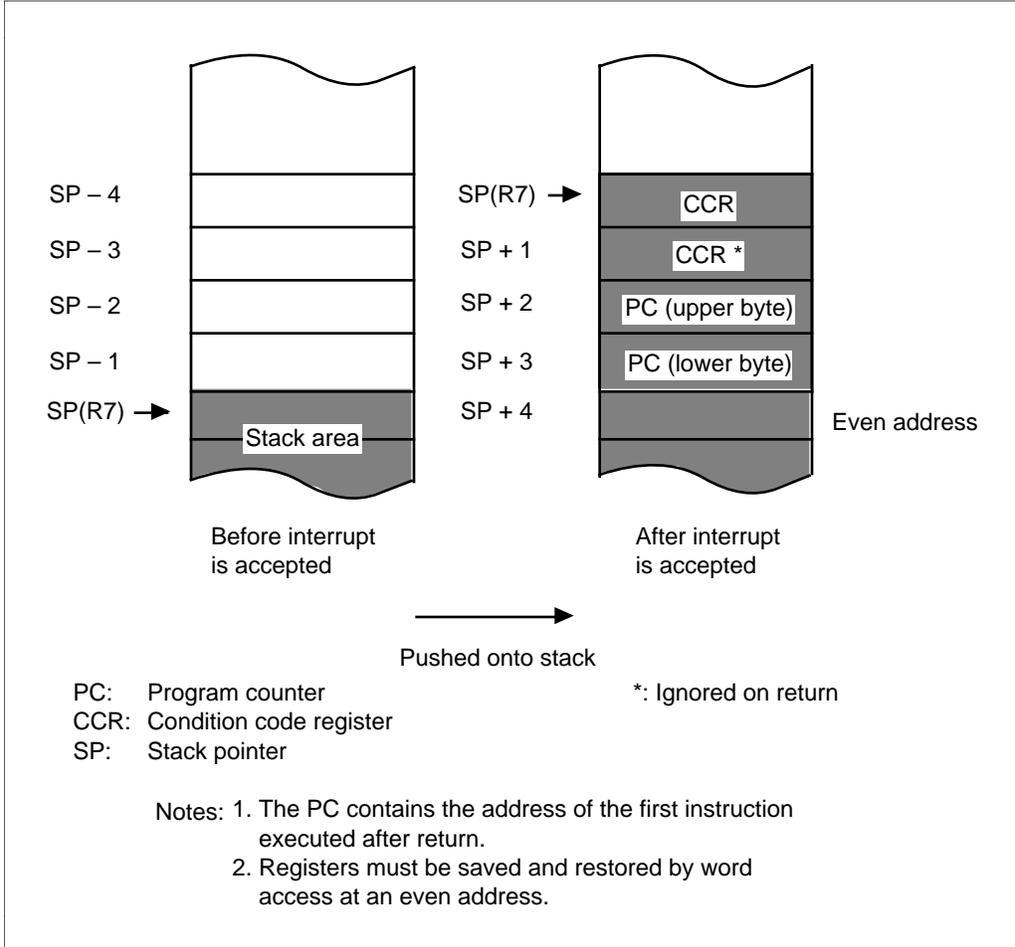

Figure 4-6 Use of Stack in Interrupt Handling
5. In the hardware exception-handling sequence, the CPU first pushes the PC and CCR onto the stack. See figure 4-6. The stacked PC indicates the address of the first instruction that will be executed on return from the software interrupt-handling routine.